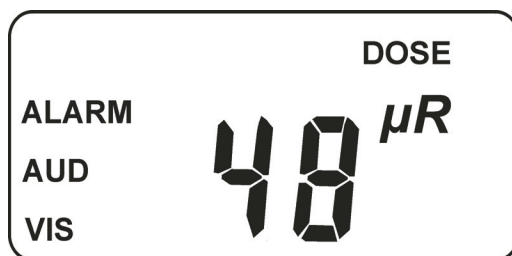

Figure 9 A Typical Dose Display
- The Dose Mode display (Figure 9) will show you the dose that has accumulated since the unit's memory was last reset to zero.
There are several indicators for the High Dose Alarm Threshold (Figure 9).
There are several indicators for the Low Rate Alarm Threshold (Figure 9).